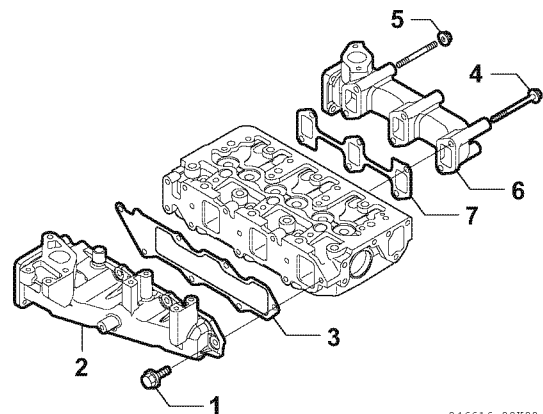

Figure 6-36
4. Reinstall the exhaust manifold (6, **Figure 6-36**) using a new gasket (7, **Figure 6-36**). Tighten the bolts to the specified torque.
5. Reinstall the intake manifold (2, **Figure 6-36**) using a new gasket (3, **Figure 6-36**). Tighten the bolts to the specified torque.